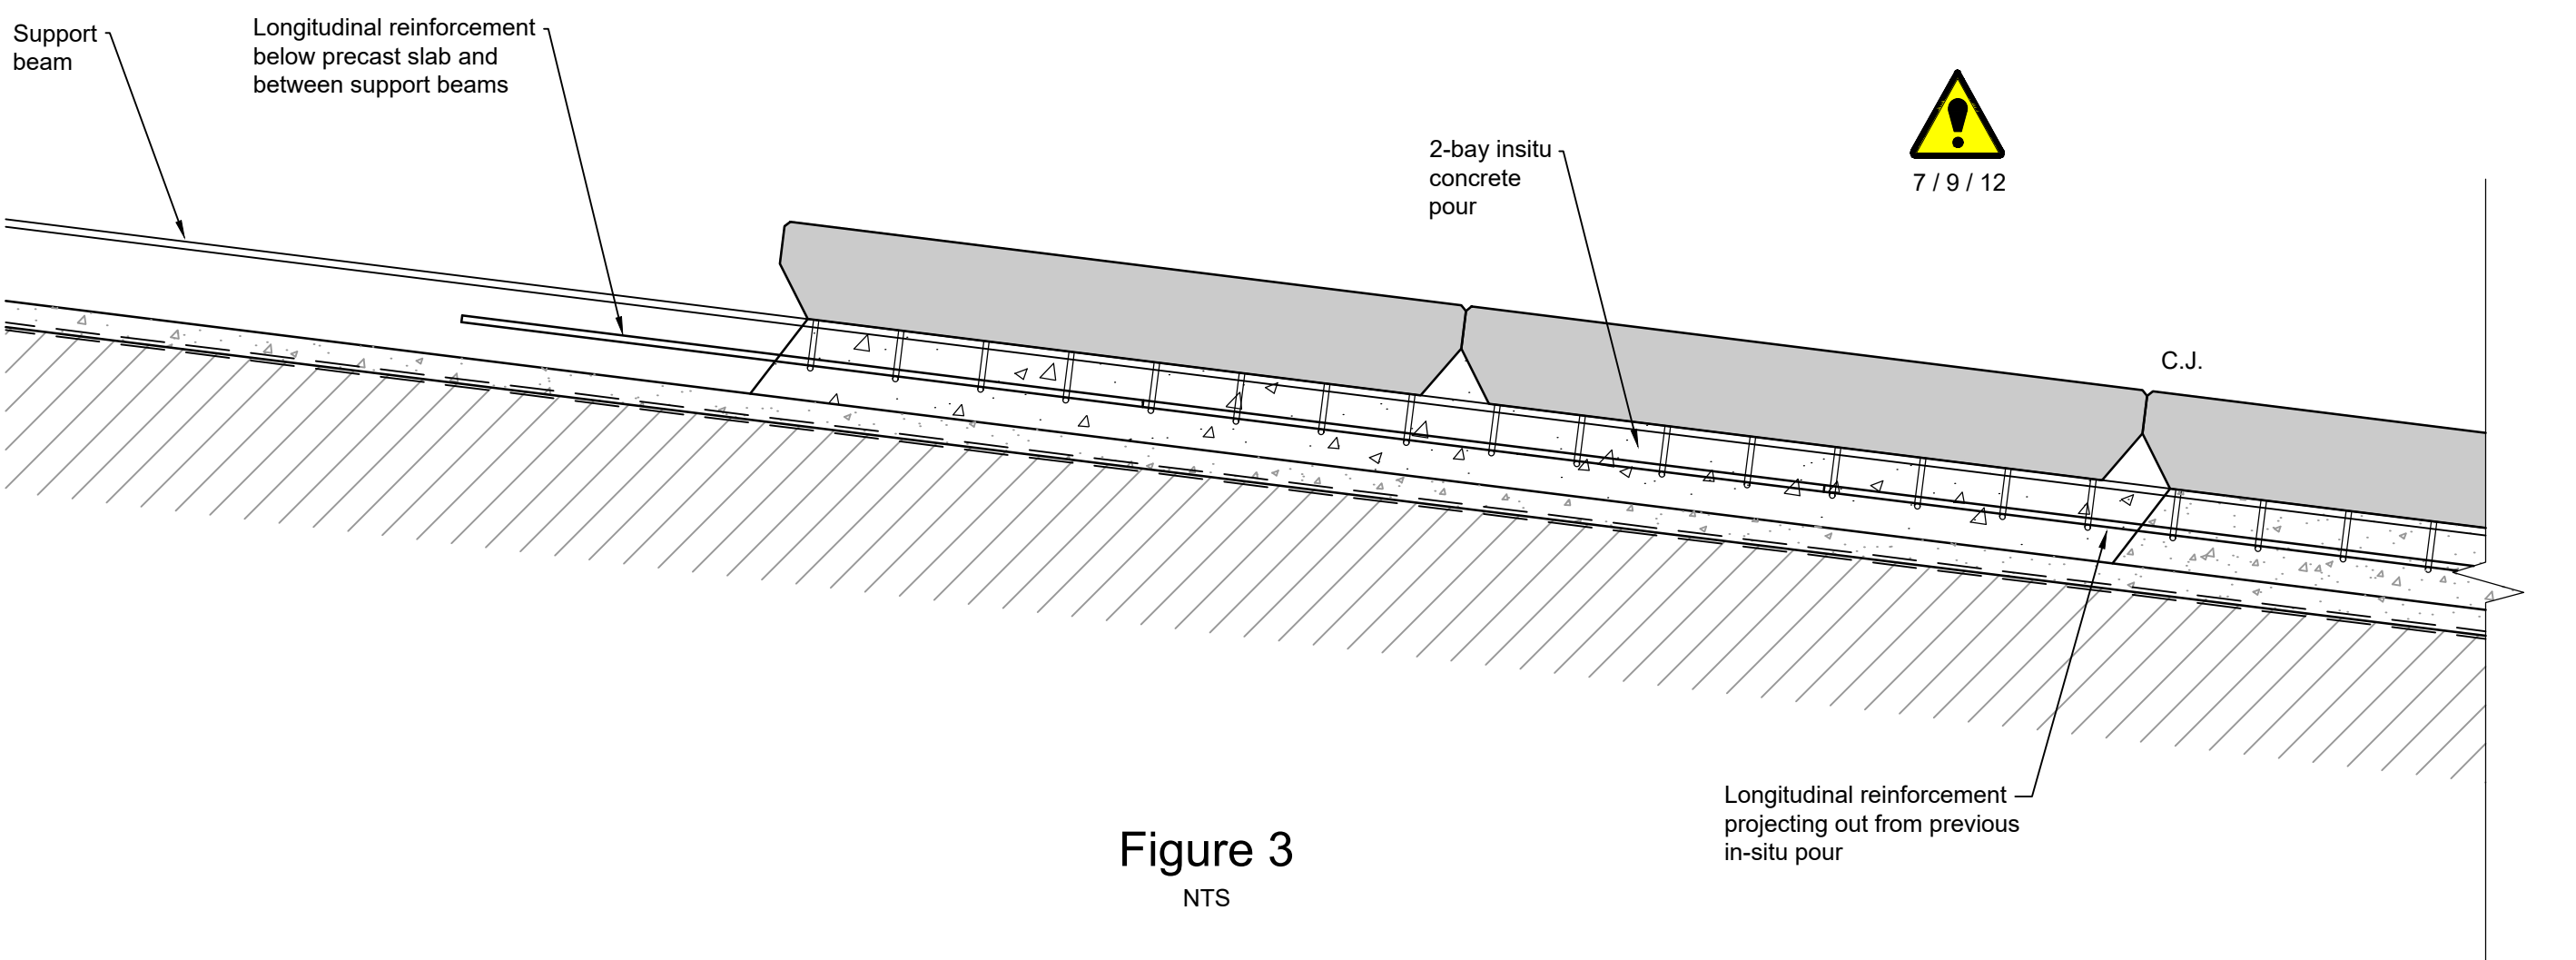

Figure 3
- Longitudinal reinforcement (pre-attached to underside of precast) will extend outwith upper side of precast. Refer Figure 3.
- In-situ pour below precast units, anticipated that this will be for 2nr bays at a time. Refer Figure 3.